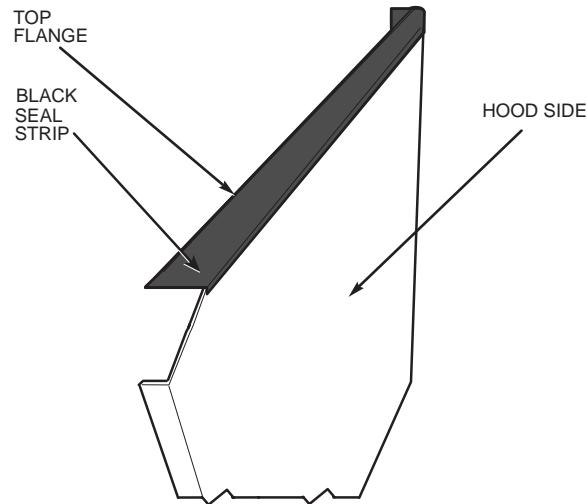

Fig. 16 — Adding Seal Strip to Top of Hood Sides
1. a. Apply black seal strip (provided in package) to outside top edge of hood sides. Wrap seal strip over to cover top flange (4 hood sides). Make certain seal strip covers screw holes. Allow strip to overhang $\frac{1}{8}$ in. past end opposite mounting flange. See Fig. 16.